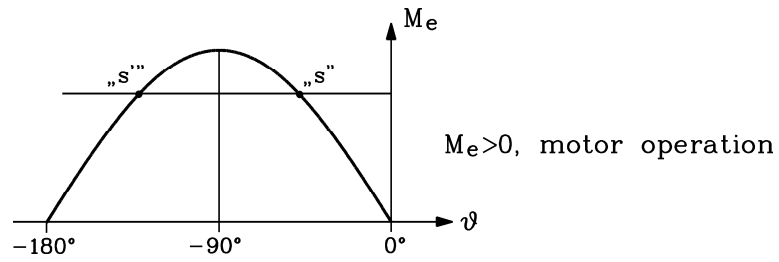
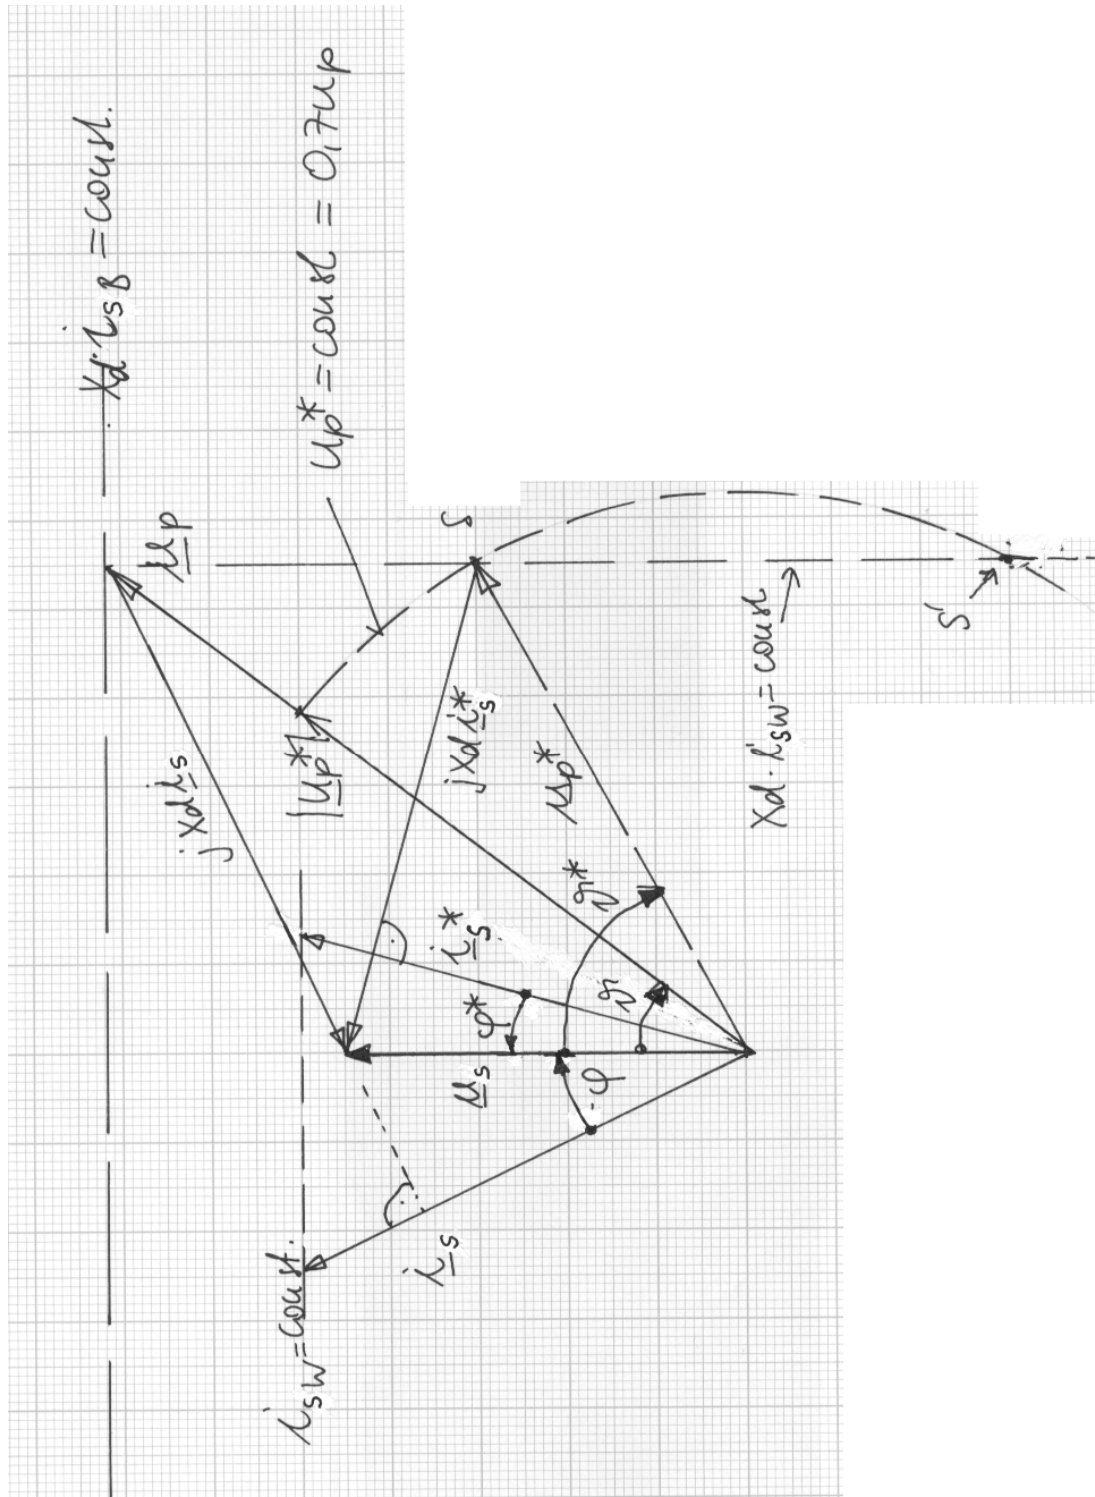

Fig. 3.6-1: Stable (S) and unstable (S') operation point for given motor torque
Fig. 3.6-2: Phasor diagram at 90% rated voltage for big and small back EMF, but constant power
- 1) Phasor diagram in p.u. values (Fig. 3.6-2):
2). In Fig. 3.6-2 the intersection of the circle of $u_p^* = \text{const.}$ (centre: point of origin) and $j \cdot x_d \cdot i_{s,w} = \text{const.}$ delivers two operation points S and S' . Point S' is unstable, as $|\vartheta^*| > 90^\circ$ (Fig. 3.6-1). So new operation point is S , which satisfies all conditions made above. We get from Fig. 3.6-2 at S : $x_d \cdot i_s^* = 1.14 \text{ p.u.} \Rightarrow i_s^* = 1.04 \text{ p.u.} \Rightarrow \underline{I_s^* = 264.8 \text{ A}}$